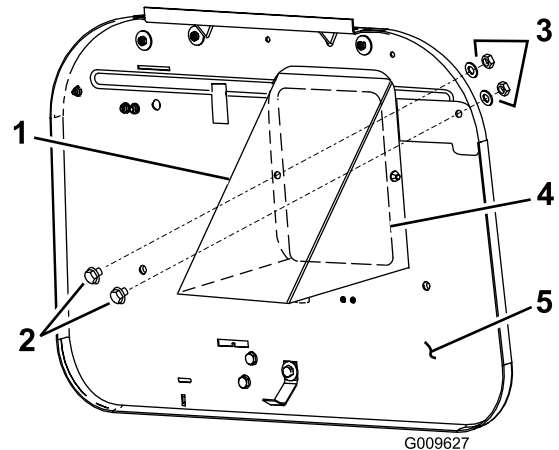

Figure 1
8. Secure the deflector to the rear plate with the bolts, washers, and nuts provided in the kit (Figure 1).